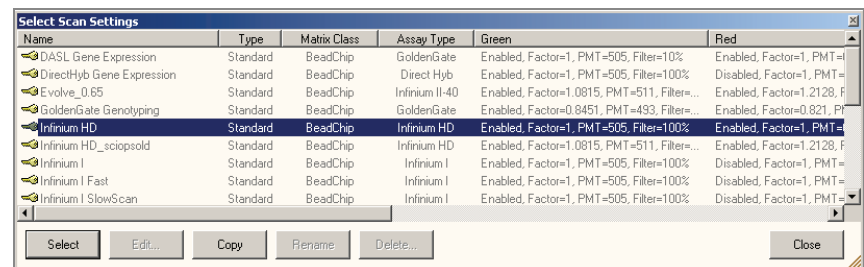

Figure 215 Select Scan Settings Dialog Box
- c. If either the **Sentrix Type** or **Scan Settings** are not correct, click **Browse (...)** to open the Select Scan Settings dialog box (Figure 215).